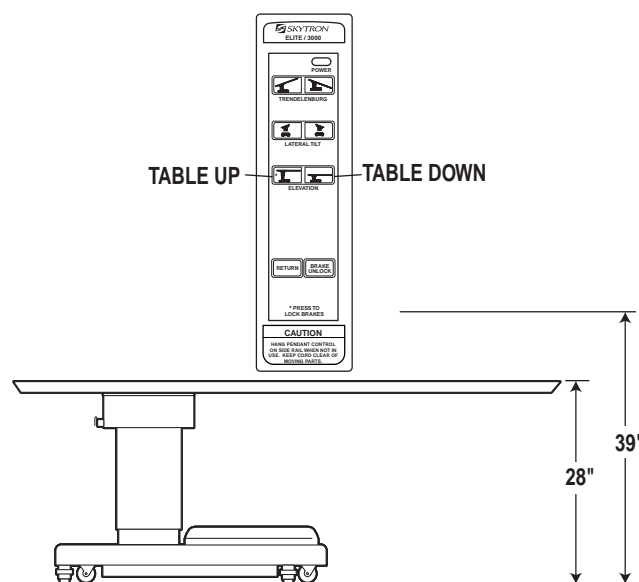

Figure 2-6. Elevation Function
d. Elevation. To raise table top, press the UP button (figure 2-6.). The table will lift a patient weight of 500 pounds up to a maximum height of 39". To lower the table top, press the DOWN button. The table top will go down to a minimum height of 28" (minus pad).